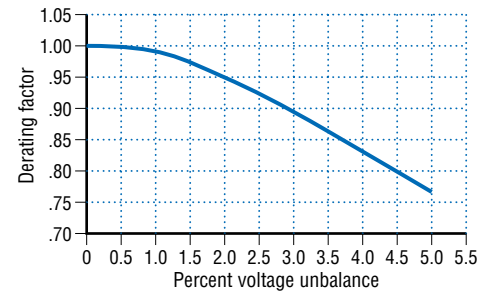

Figure 2. Motor unbalance derating curve, NEMA.
**Unbalanced Voltages:** This is another common root cause of motor overheating. What may seem like a small amount of voltage unbalance may increase the motor's current five to ten times the amount of the voltage unbalance. A 3.5% voltage unbalance will cause an approximate 25% increase in motor temperature rise. Again the culprit is the higher losses associated with the greatly increased and unbalanced currents in the motor's windings. Figure 2 dramatically illustrates the detrimental effects of voltage unbalance. A 5% voltage unbalance causes the motor's horsepower/torque output to be derated nearly 25%!